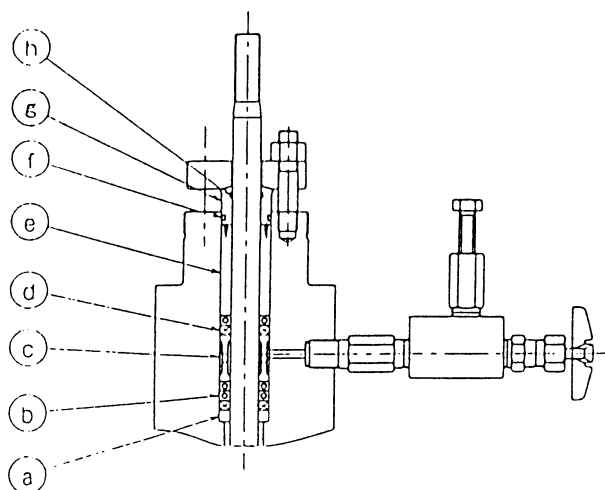

Figure 2-1 Gland Assembly
- (2) Insert the valve plug from the top gland part.
- (3) Insert gland packing. Refer to Figure 2-1.
- (4) Mount the packing follower and the packing flange and tighten the nut. For the nut tightening torque, refer to Table 2-2.